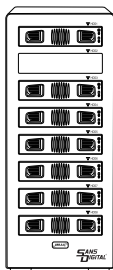

Fig.16
1. This example is based on drive 2 failure.If drive 2 fails, please remove it from the device (Fig.16).